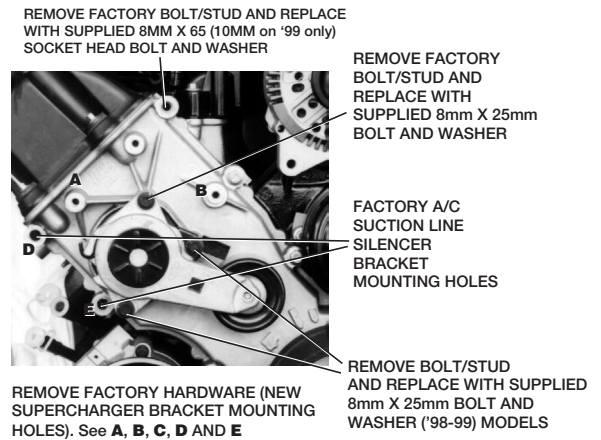

Fig. 8.1-c
- G. Remove the air conditioning line silencer bracket and mounting hardware from the silencer and front cover. Enlarge both of the holes on the bracket with a 27/64" drill bit, remove any sharp edges around the enlarged hole and reinstall onto the silencer. (See Fig. 8.1-e.)